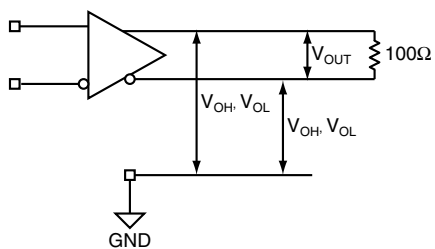

Figure 1a. LVDS Differential Measurement
**Note 3.** Measured as per Figure 1a,  $100\Omega$  across Q and /Q outputs.